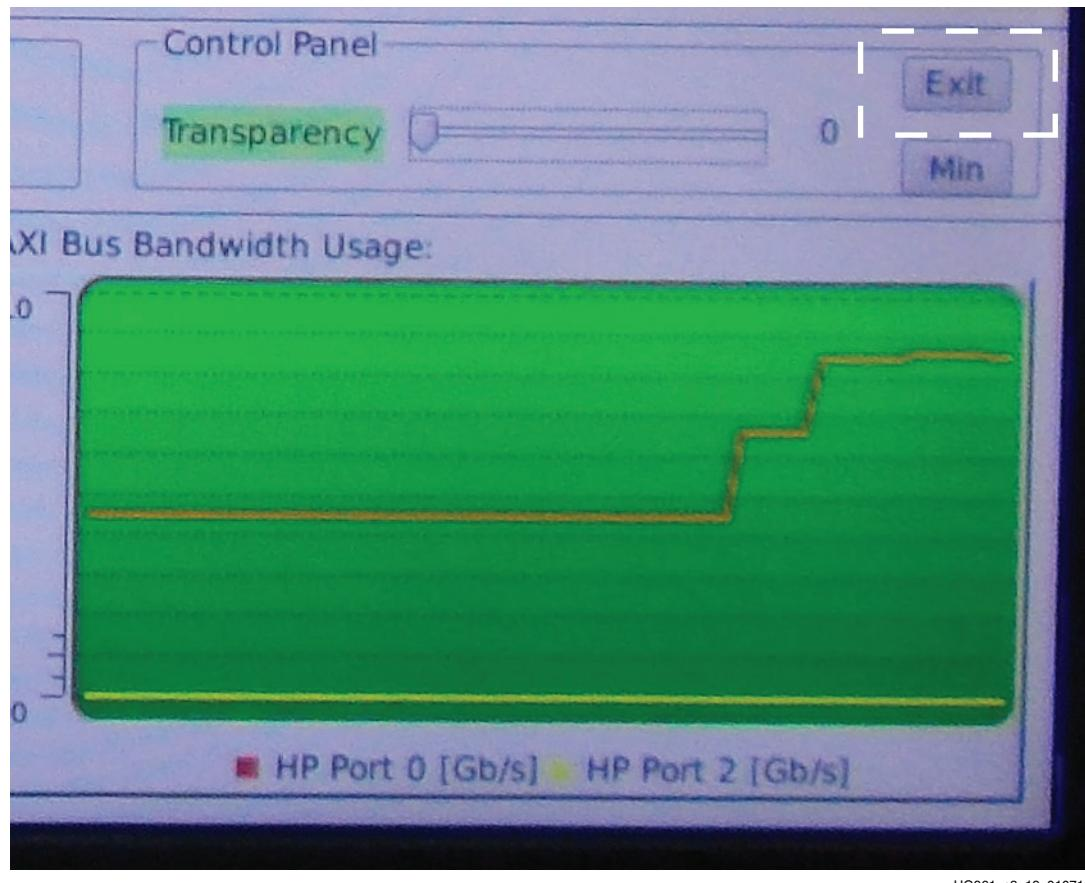

Figure 3-19: Exiting the Qt GUI
11. Exit the Qt GUI by clicking the **Exit** button in the GUI as shown in Figure 3-19.